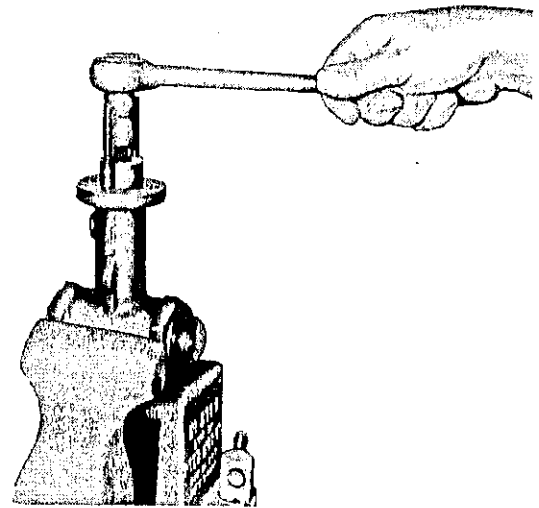

Figure 16 - Tightening the seat ring retainer (4)
2. Carefully apply Never Seez grease (or equivalent) on threads and bottom of retainer (4). With a 9/16" or 14 mm piece of hex stock and a wrench, torque the retainer to 59 ft-lb (8 daN.m) if a graphite gasket st. reinforced, or to 40 ft-lb (5.5 daN.m) if a glass filled P.T.F.E. gasket (see figure 16).